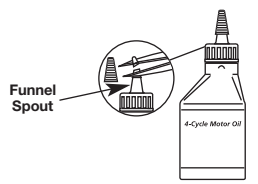

Fig. 1
The unit is supplied with one 3.04 fluid oz. (90 ml) bottle of SAE 30 SF, SG, SH oil (Fig. 1).
1. Unscrew the top of the bottle of oil and remove the paper seal covering the opening. Replace the top. Next, cut the tip off the funnel spout (Fig. 1).